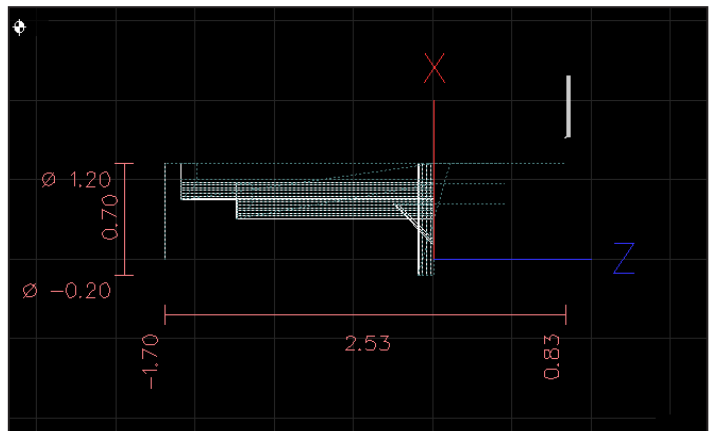

Figure 4.34
2. Click *Append to File* to add this code to part program and generate tool path shown in **Figure 4.34**.